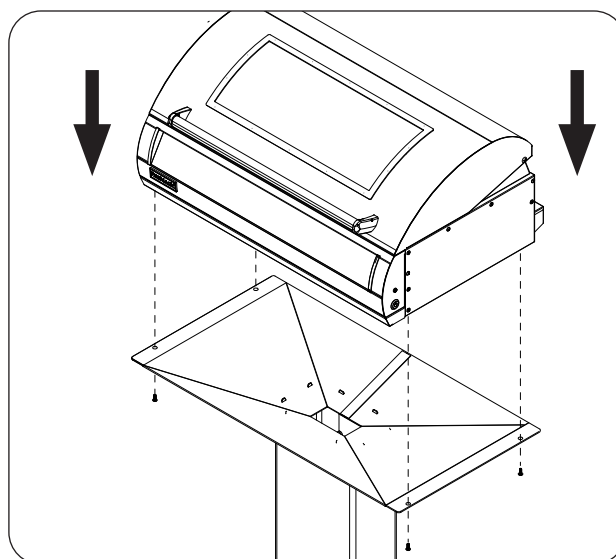

Fig. 26-1 Fasten grill to post base assembly
2. Carefully place and align the electric grill onto the top of the post assembly. Fasten the electric grill to the post base assembly using the 4 included Phillips-head screws. See Fig. 26-1.